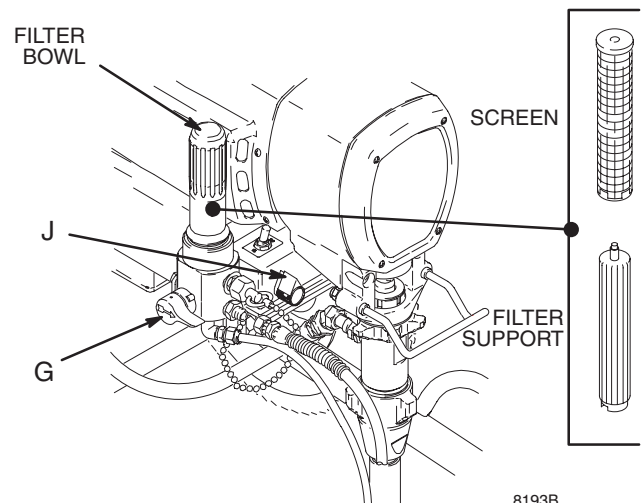

Fig. 8
- Follow **Pressure Relief Procedure** on page 8. Engage gun safety latch. See Fig. 8.
- Turn pressure adjusting knob (J) fully counter-clockwise to zero pressure.
- Put suction tube into a grounded metal pail with 1/2 gallon of compatible solvent. Close pressure drain valve (G).